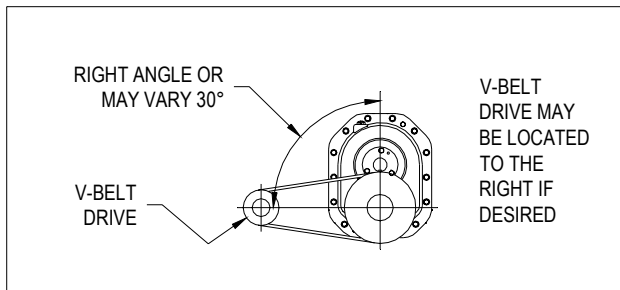

Figure 3 – Angle of V-Drive
5. If not using a Dodge Torque-Arm II motor mount, install motor and V-belt drive so belt will approximately be at right angles to the centerline between the driven and input shaft. (See Fig. 3) This will permit tightening the V-belt with the torque arm.